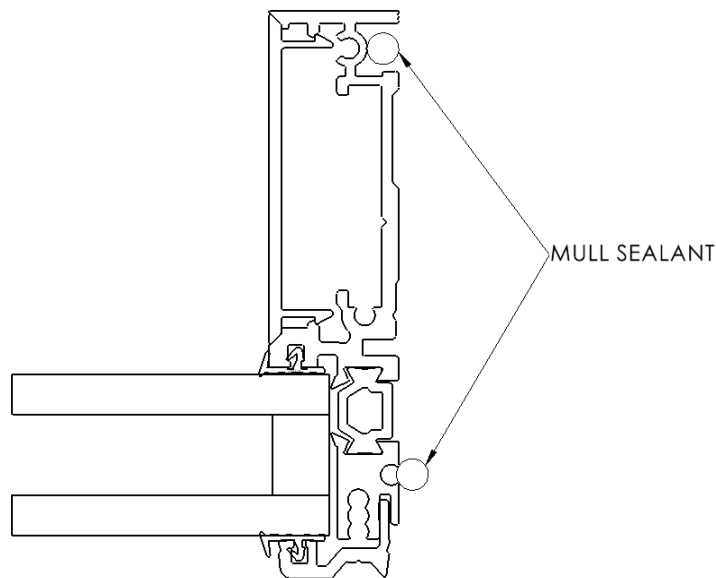

Figure 3
1. Apply a 1/4" diameter bead of Dow 795 sealant or equivalent sealant in the mull clip groove and at the sealant groove. See Figure 3.